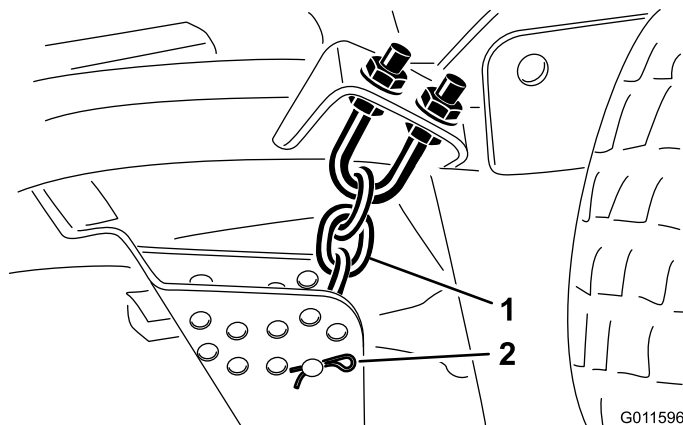

Figure 18
5. Remove the hairpin cotter and clevis pin securing the height-of-cut chains to the rear of the cutting unit (Figure 18).